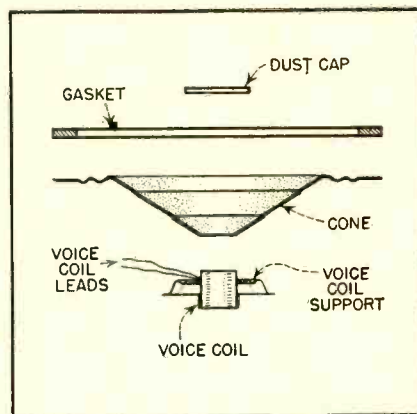

Figure 2
R.C.A. Service Division recommends the following procedures when replacing voice coils and cones in certain R.C.A. speakers. These procedures are general enough to apply to many other types of loud speakers. In following these instructions refer to Figs. 2 and 3.